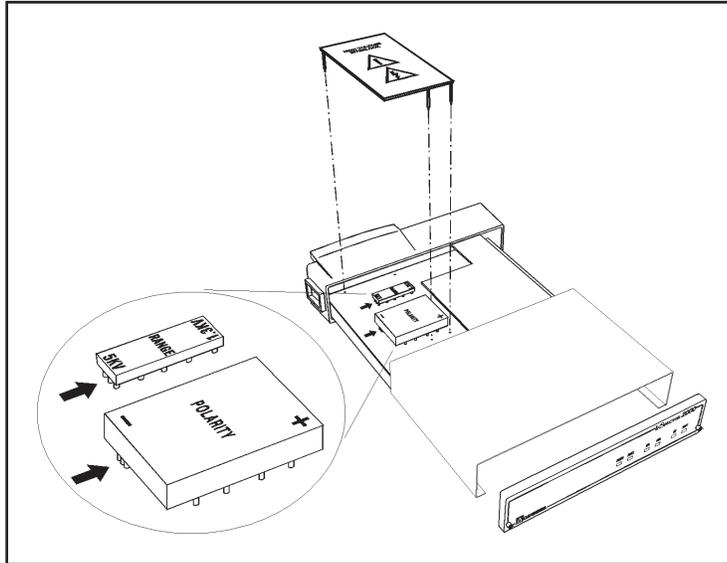

Figure 49 High Voltage Interlock Board Removed
3. Carefully grasp the High Voltage (HV) Interlock Board with both hands, lift to disengage from the High Voltage Power Supply area as shown in Figure 49.
1. Polarity markings (+) for positive and (-) for negative are located on each corner of the high voltage (HV) Polarity Module. The Polarity identifier arrow is located on the high voltage printed circuit board. The identifier arrow pointing to the polarity marking on the HV Polarity Module determines the polarity configuration. In Figure 49, the identifier arrow is pointing to the (-)
1. Range markings (1.3 KV) for 1300 volts and (5 KV) for 5000 volts are located on each end of the High Voltage (HV) Range Module. The Polarity identifier arrow is located on the high voltage printed circuit board. The identifier arrow pointing to the range marking on the HV Range Module determines the range configuration. In Figure 49, the identifier arrow is pointing to the 5 KV marking